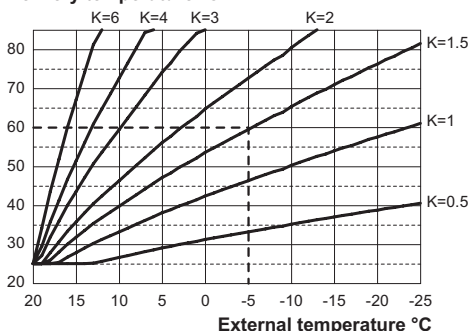

Fig. 8.13
The boiler is set with a K coefficient of zero for operation without the probe connected. If an external sensor (optional) is connected to the boiler, the correct parameter must be set according to the type of probe installed (see "Selecting the type of external sensor" on page 62) and the K coefficient must be set based on the efficiency of the heating system to optimise the delivery temperature (Fig. 8.13).
E.g. To achieve a heating system delivery temperature of 60°C with an outdoor temperature of -5°C, set a K of 1.5 (dashed line in Fig. 8.13).
- Use key 15 or 16 to modify the value of the selected parameter, referring to the curves in Fig. 8.13.